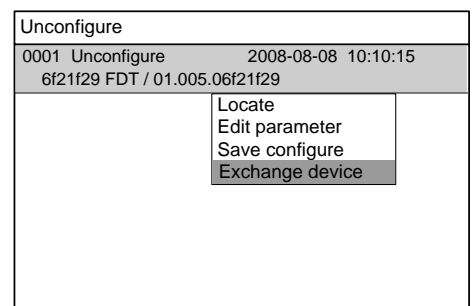

Fig.30-4
3. Press "↓" to select equipment to configure. Press "→" to pop out the shortcut menu (Fig.30-4). Use "↓" to select "Equipment Replacement" and press "OK" to enter the equipment replacement interface.